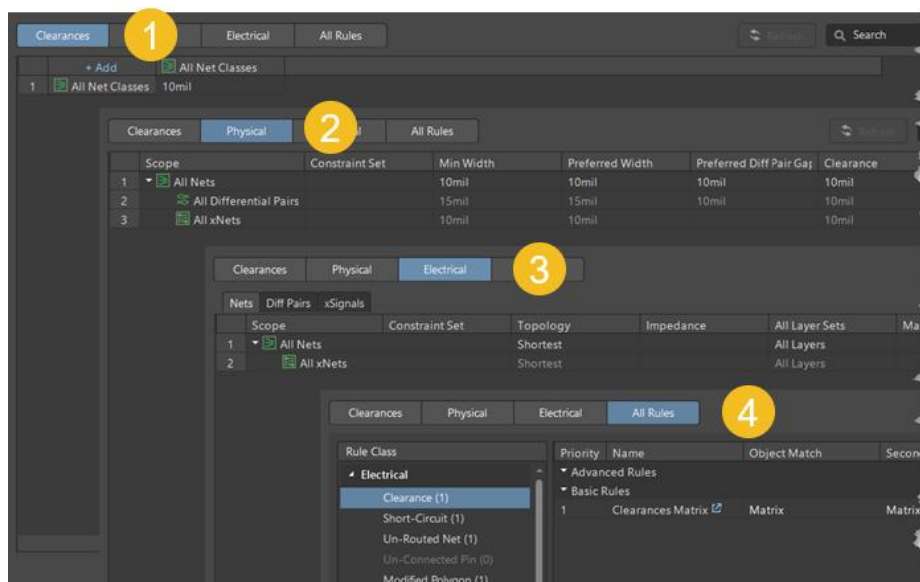

Figure 2. The four Constraint Views for PCB Constraint Manager
13. With the PCB as active document: Go to **Design » Constraints Manager (D»R)** to open the *Constraints Manager* dialog, as shown in Figure 2.